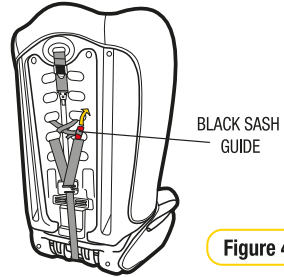

Figure 4
Step 4: The sash guide (if supplied) is stored at the back of the restraint (refer Figure 4).